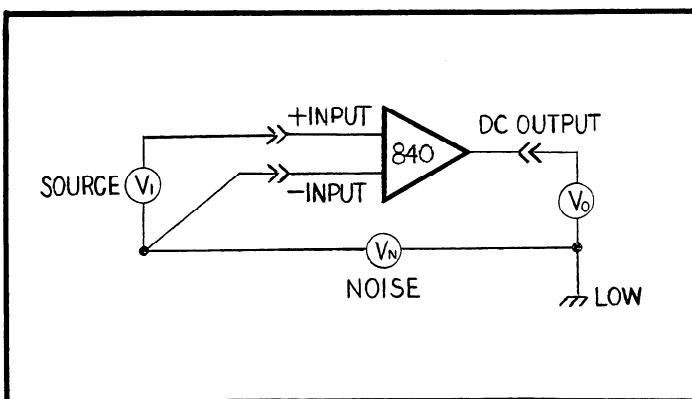

FIGURE 9. Use of Differential Input.
b. Grounding. The Model 840 has been designed to minimize the effects of electric field interference and ground loops in system connections. The differential input of the Model 840 provides common-mode rejection. Also the ground loop between instruments (such as for the System 84) is effectively broken. Thus special precautions usually required for system connections are not necessary when the Model 840 is operated in the "DIFF" mode. Figure 9 shows the equivalent circuit for a differential connection to the Model 840.